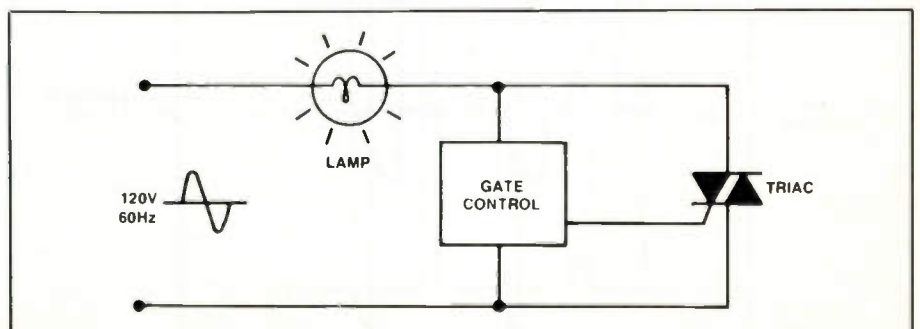

Figure 4.
We can now get back to the lamp dimmer and solve our problem by replacing the SCR of Figure 1(A) with a triac, as in Figure 4.